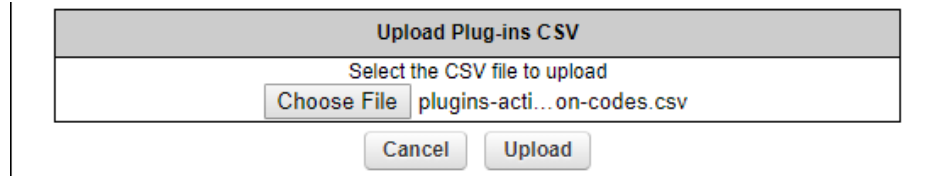

Figure 75. MANAGE PLUG-INS DIALOG (Upload Plug-ins CSV section)
7. Upload the *.CSV file to the unit by clicking the **Choose File** button in the **Upload Plug-ins CSV** section (Figure 75 (page 156)) and following the software prompts.